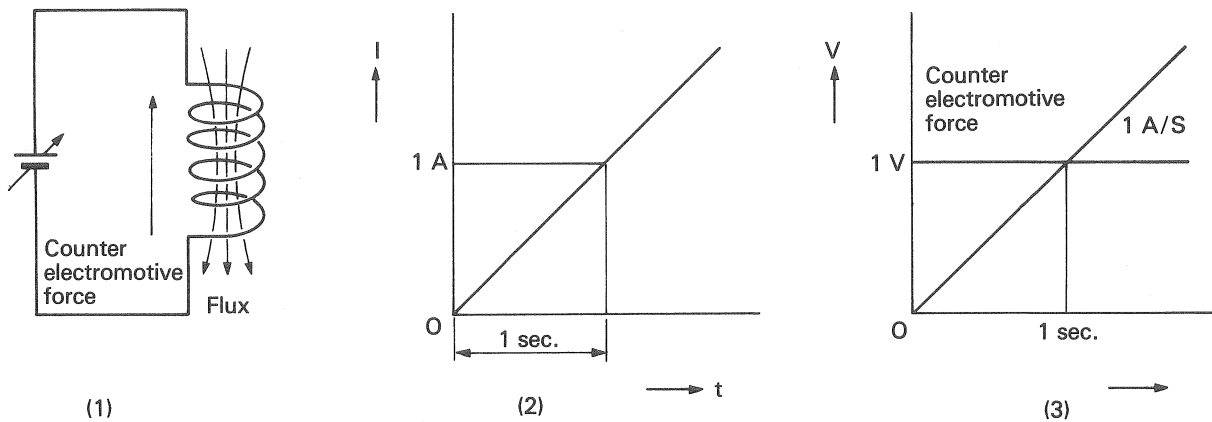

Fig. 2 Self-induction effect and counter electromotive force
This phenomenon of an electromotive force being generated is known as the self-induction effect, and the degree of the strength that the coil has to obstruct the current variations is known as the coefficient of self-induction, or self-inductance, or simply, inductance. The greater the inductance of the coil, the greater the value of the counter electromotive force. Let's see what happens when a battery is connected to the coil in Fig. 2(1) and the voltage is varied.
If the current is now varied linearly (1 A/sec.) with respect to time as shown in Fig. 2(2) and if a counter electromotive force of 1 V has been generated in the coil, the inductance of the coil is defined as 1 Henry. (Symbol: H)